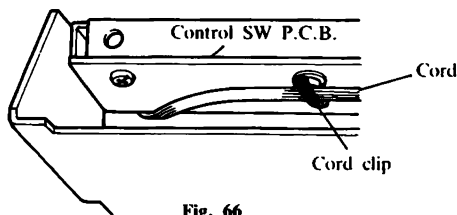

Fig. 66
- (3) Fix the control panel with the two screws. (3×8)
- (4) Bend cord clip to clip the cord on the right side. (Refer to Fig. 66)